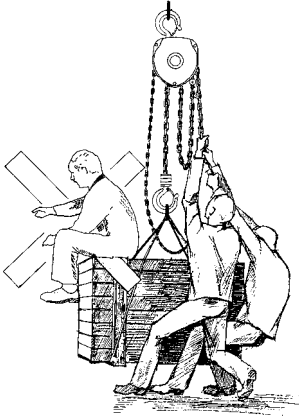

Fig. 1
- It is forbidden to use this product for the transportation of people (Fig. 1).